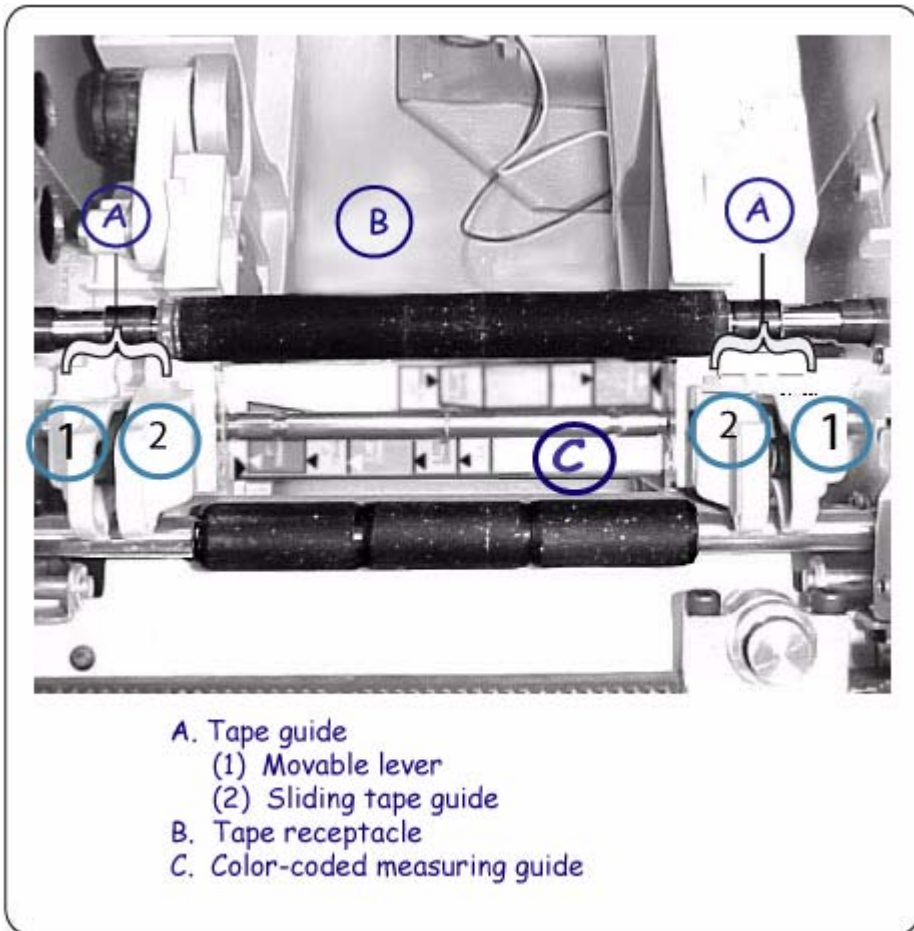

Figure 2-5. Tape guide, print tape receptacle and color-coded measuring guide.
- Step 2:** Grasp both tape guides. **Note:** Each tape guide is made up of two parts: a movable lever (1) and sliding tape guide (2) (Figure 2-5). Squeeze the movable lever and sliding tape guide together to position them.